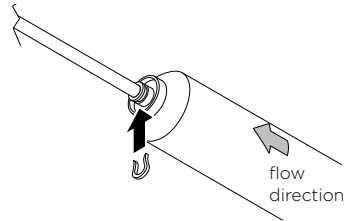
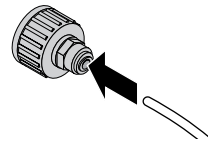

Fig.8 Locking clip
Fig.9 Waterline connection
- ① Measure out and cut the length of tube required from the filter to the refrigerator, and from the filter to the water supply. When cutting, make sure tube ends are square and clean.
- ② Note flow direction on filter side to ensure water runs the correct way (Fig.8).
- ④ Secure the tube to the filter by sliding a locking clip into the groove as shown (Fig.8).
- ⑤ Repeat the procedure on the other end of the filter.
- ⑥ Connect the end into the plastic adaptor (Fig.9). Screw the adaptor onto a suitable $\frac{3}{4}$ BSP connector water outlet.
- ⑦ Open the water valve to flush 19 L (5 gal) of water through the filter to remove any trapped air. Check for leakage in the water tube connections.
- ⑧ Access the water valve assembly at the back of the refrigerator. Push the tube into the valve assembly.